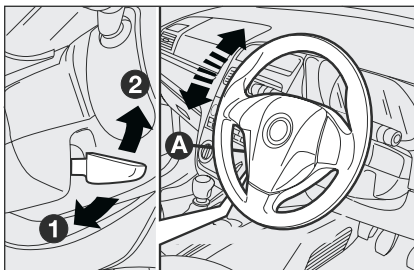

fig. 25
- ❑ release the lever **A**-fig. 25 pushing it forwards (position 1);